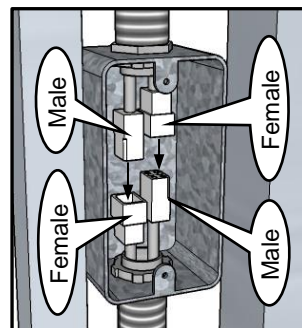
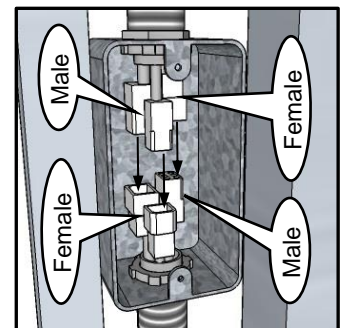

Figure 21
Figure 22
- 3 On 3-stop dumbwaiters, the wires dropping down will have a male and female connector as will the junction box. Make sure the male and female from above plug into the male and female from below. (for 3-stops see Figure 21) (for 4-stops see Figure 22)